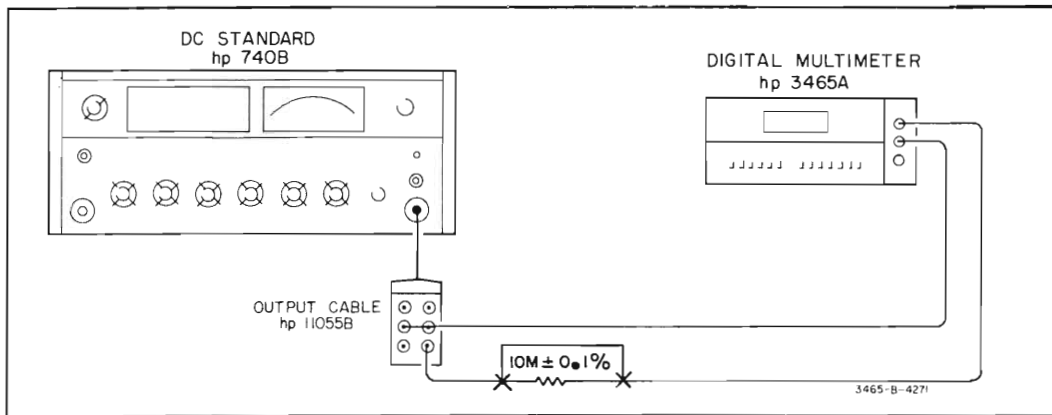

Figure 5-6. DC Voltmeter Input Resistance Test.
- Connect the Multimeter, DC Standard and resistor as shown in Figure 5-6.